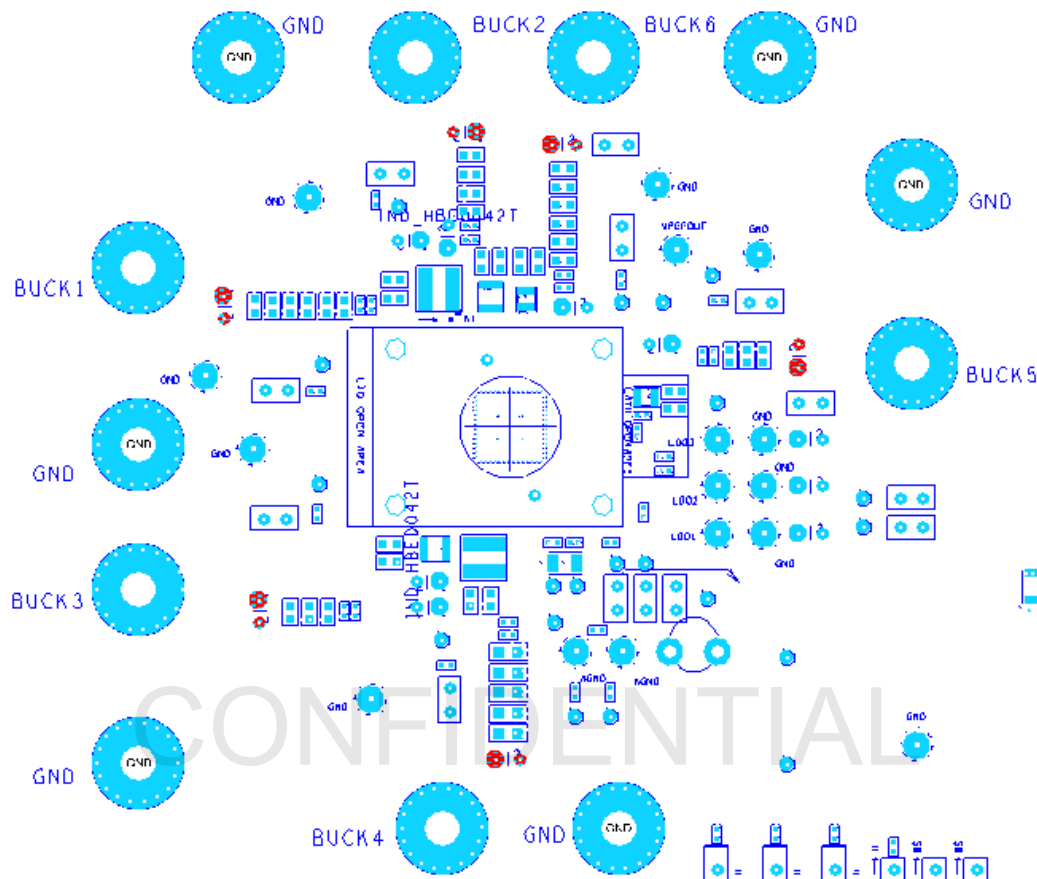

Figure 10. Locations for Measurement of Buck Regulator Output Voltages
4. Figure 10 shows locations on the PCB where the buck regulator output voltages can be measured accurately. For each buck regulator, there is a pair of pads with holes to which wires, pins, or connectors can be soldered, or an oscilloscope probe can be connected. The larger of each pair of pads is the positive; the smaller pad is ground.